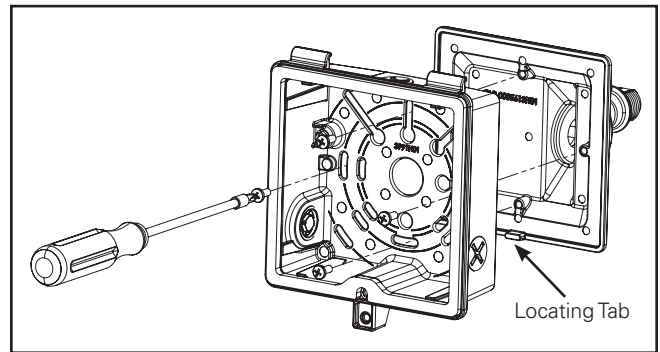

Figure 3.
4. Use the supplied four 8-32 x 1/2" Phillips head screws to attach the back box to the knuckle flood base assembly. The wire leads must be pulled through the center wire way hole. Utilize the locating tab on the knuckle flood base plate to align to the back box. Tighten/torque all four screws to 30-40 in-lbs. Ensure all screws are equally tight. Ensure that the knuckle plate is FULLY compressed against the back box. Full compression will result in no visible gap between the back box and knuckle flood base. (Figure 3.)